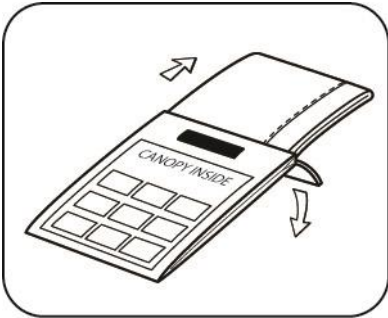

**FIGURE 6
4. When deemed ready to cast away from the boat or aircraft, cut the painterline with the knife (See Figure 6).